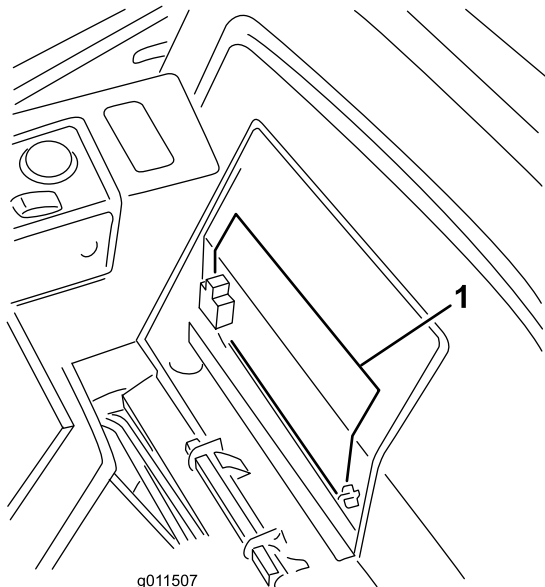

Figure 57
2. Remove the battery cover (Figure 57).